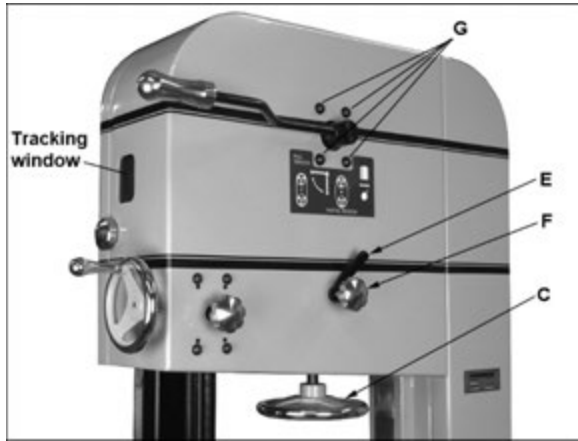

Figure 24: blade tension/tracking
Refer to Figure 24.
3. With blade centered on wheels, move quick tension lever to “Full Tension” position, as shown in Figure 24. NOTE: You will be able to feel the lever fall into each position.
4. Rotate tension handwheel (C, Figure 24) until scale pointer (Figure 25) reaches appropriate measurement for blade width.
4. Set quick tension lever to “Full Tension” position, as shown in Figure 24.
IMPORTANT: Make tracking adjustments with knob (F, Figure 24) while blade is at full tension. DO NOT use screws (G, Figure 24); these were used by the manufacturer for wheel alignment and should NOT be used for tracking.
6. If blade tends to move toward edge of wheel, loosen locking lever (E, Figure 24) and slightly rotate tracking knob (F) with your right hand while continuing to rotate wheel with your left. Observe blade through tracking window. Rotate tracking knob clockwise to move blade toward rear edge of wheel. Rotate counterclockwise to move blade toward front edge of wheel.